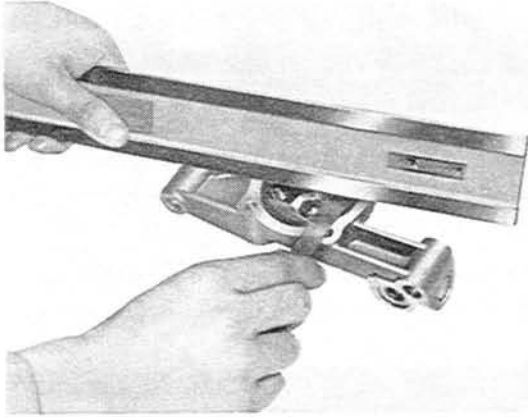

Fig. 2-7 Checking of rotor end float
3. Check the end of the rotors. Place a straight edge across the pump body and measure the clearance between the rotor and the straight edge with a feeler gauge as shown in Fig. 2-7.